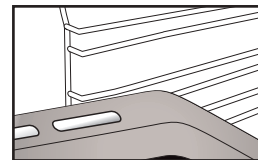

Fig. 2
2. other accessories, such as the drip tray and baking tray, are inserted in the same way as the wire shelf (Fig. 2).